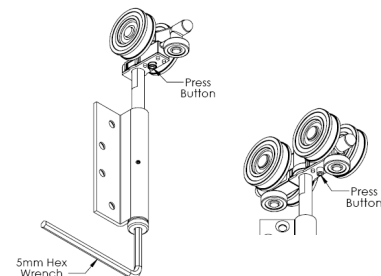

Figure A4:
- Depress and hold the button on the Hanger housing. Using the 5mm wrench, turn the Hanger Pin in the desired direction, clockwise to raise, counterclockwise to lower. Once you have reached the desired Panel height, release the button and continue to turn the pin until the button resets to the locked position (Figure A4).